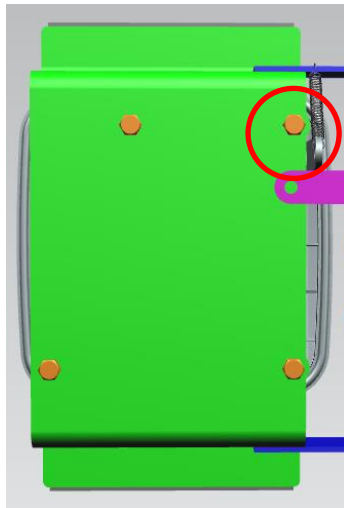

Figure 2: Remove Upper Right Screw
4. On the rear side of the service and the wheelchair lift door lock handles, remove and discard the upper right corner screw and washer. See Figure 2.